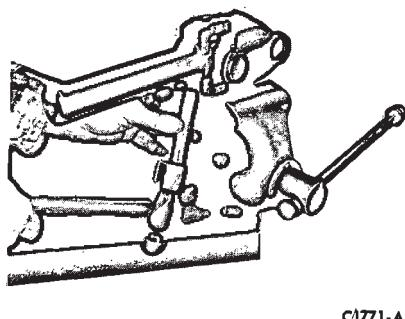

FIG. 11—Removing Bearing from Center Yoke
4. Tighten the bearing in the vise and tap on the weld yoke to free the bearing from the center yoke (Fig. 11). **Do not tap on the driveshaft tube.**